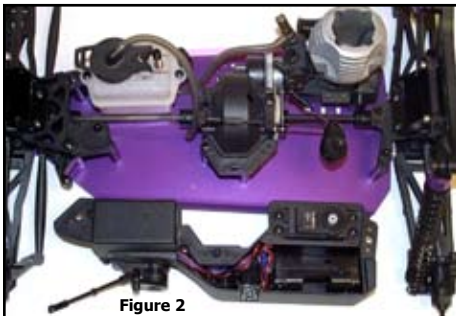

Figure 2
2. Remove the throttle servo arm and disconnect the steering servo link. Remove the radio box as shown in *Figure 2*.